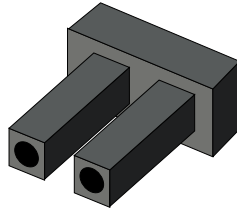

Figure 1-13 Fiber-Optic Protective Plug
- **Fiber-optic protective plug** - For safety and port transceiver protection, fiber-optic protective plugs (Figure 1-13) must be inserted in all switch ports without fiber-optic cables attached. The switch is shipped with protective plugs installed in all ports.